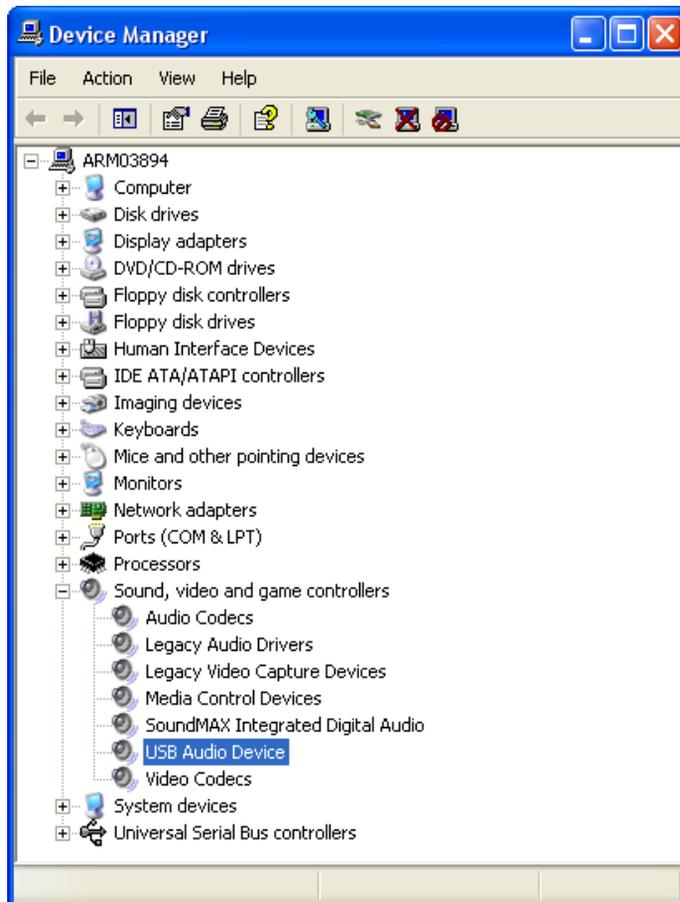

Figure 1-2 USB audio device
6. You can check the status of this USB audio device in the Device Manager panel. From the **Control Panel**, double click **System**. Select the **Hardware** tab. Then select **Device Manager**. In the **Sound, video and game controllers** group (see Figure 1-2 on page 1-10), double click **USB Audio Device**. This represents the Keil MCB2140 speaker. Check that this device is enabled and working properly.